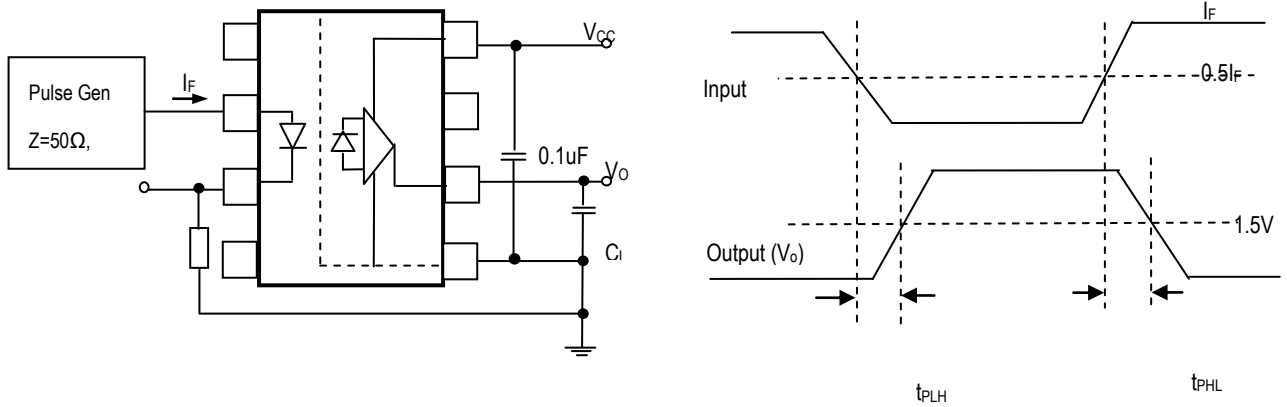

Figure 1: One Channel Test Circuit for  $t_{PHL}$  and  $t_{PLH}$
1. A 0.1 $\mu F$  or bigger bypass capacitor for  $V_{CC}$  is needed as shown in Fig.1